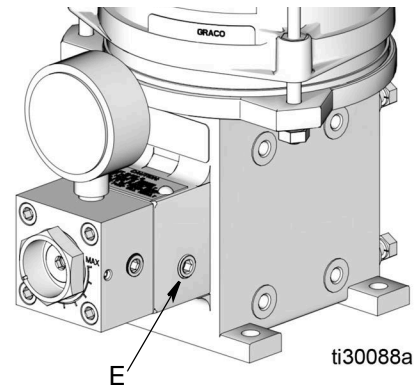

Fig. 6: Drain Plug
- Filling the grease reservoir requires an external, air-free supply source connected to the fill stud (13).
1. Remove the fill cap (12)
2. Connect the grease supply source to the fill stud (13).
3. Loosen the drain plug (E), located on the opposite side of the base from the fill stud (13) (FIG. 6).